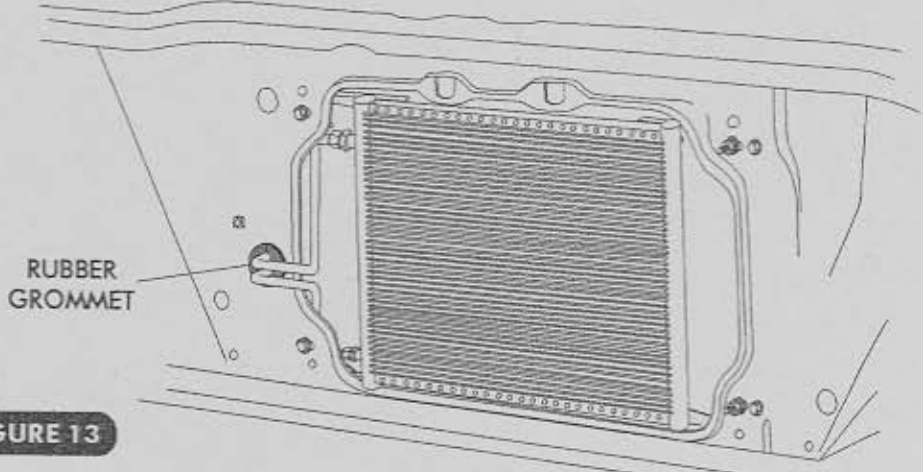

FIGURE 13
- NON AIR:** WITH HARDLINES IN PLACE, INSTALL THE VINTAGE AIR #6/#8 RUBBER GROMMET. SEE FIGURE 13 BELOW.